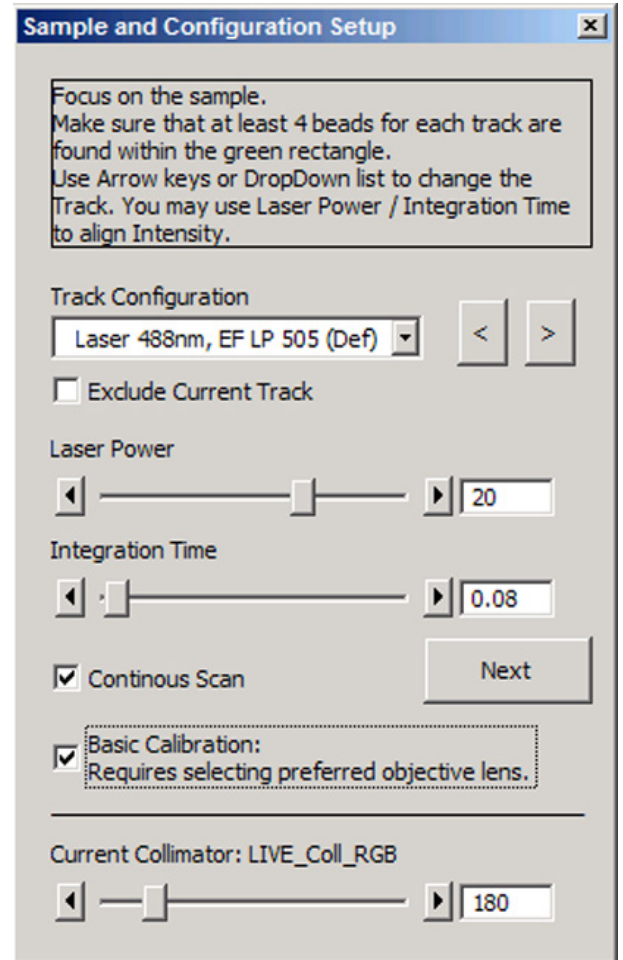

Fig. 10 Figure Sample and Configuration Setup Window of the Kollimatic Macro
- In Fig. 10, the Basic Calibration has been selected (Check box **Basic Calibration: Requires selecting preferred objective lens.**), therefore some more tracks are available